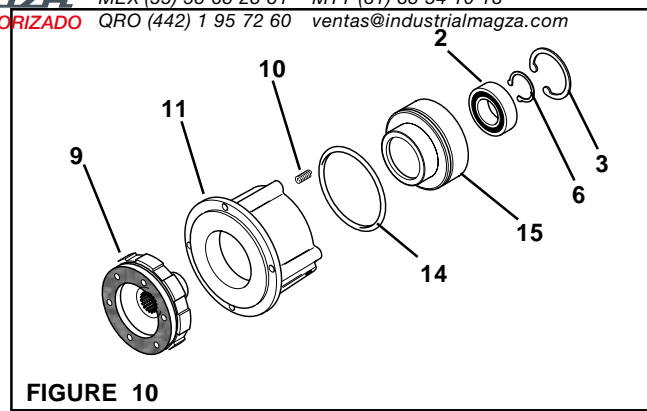

FIGURE 10
5. Using a "C" clamp, compress the Piston (Item 15) into the Air Chamber (Item 11) (See Figure 10).
6. Remove the Retaining Ring (Item 6) from the Splined Disc (Item 9) (See Figure 10).
7. Press the Splined Disc (Item 9) from the Bearing (Item 2) (See Figure 10).
8. Slowly release the "C" clamp holding the Piston (Item 15) in the Air Chamber (Item 11); then, remove the Piston (Item 15) from the Air Chamber (Item 11) (See Figure 10).
9. Remove the six Compression Springs (Item 10) (See Figure 10).
10. Remove the Retaining Ring (Item 3) from the Piston (Item 15) (See Figure 10).
11. Remove and discard the old O-ring Seal (Item 14) from the Piston (Item 15) (See Figure 10).
15. Carefully align the outer race of the new Bearing (Item 2) with the bore of the Piston (Item 15) (See Figure 10).
16. Supporting the Piston (Item 15) and pressing on the outer race of the new Bearing (Item 2), press the new Bearing into the Piston (See Figure 10).
17. Reinstall the Retaining Ring (Item 3), securing the Bearing to the Piston (Item 15) (See Figure 10).
18. Coat the O-ring contact surfaces of the Air Chamber (Item 11), Piston (Item 15), and the O-ring Seal (Item 14) with a thin film of O-ring lubricant and install the new O-ring Seal (See Figure 10).
19. Reinstall the six Compression Springs (Item 10) into the Air Chamber (Item 11) (See Figure 10).
20. Slide the Piston (Item 15) into the Air Chamber (Item 11) (See Figure 10).
21. Using a "C" clamp, compress the Piston (Item 15) into the Air Chamber (Item 11) (See Figure 10).
22. Support the inner race of the Bearing (Item 2) and press the Splined Disc (Item 9) into the Bearing and Piston (Item 15) (See Figure 10).
23. Reinstall the Retaining Ring (Item 6) that secures the Splined Disc (Item 9) to the Bearing (Item 2) (See Figure 10).